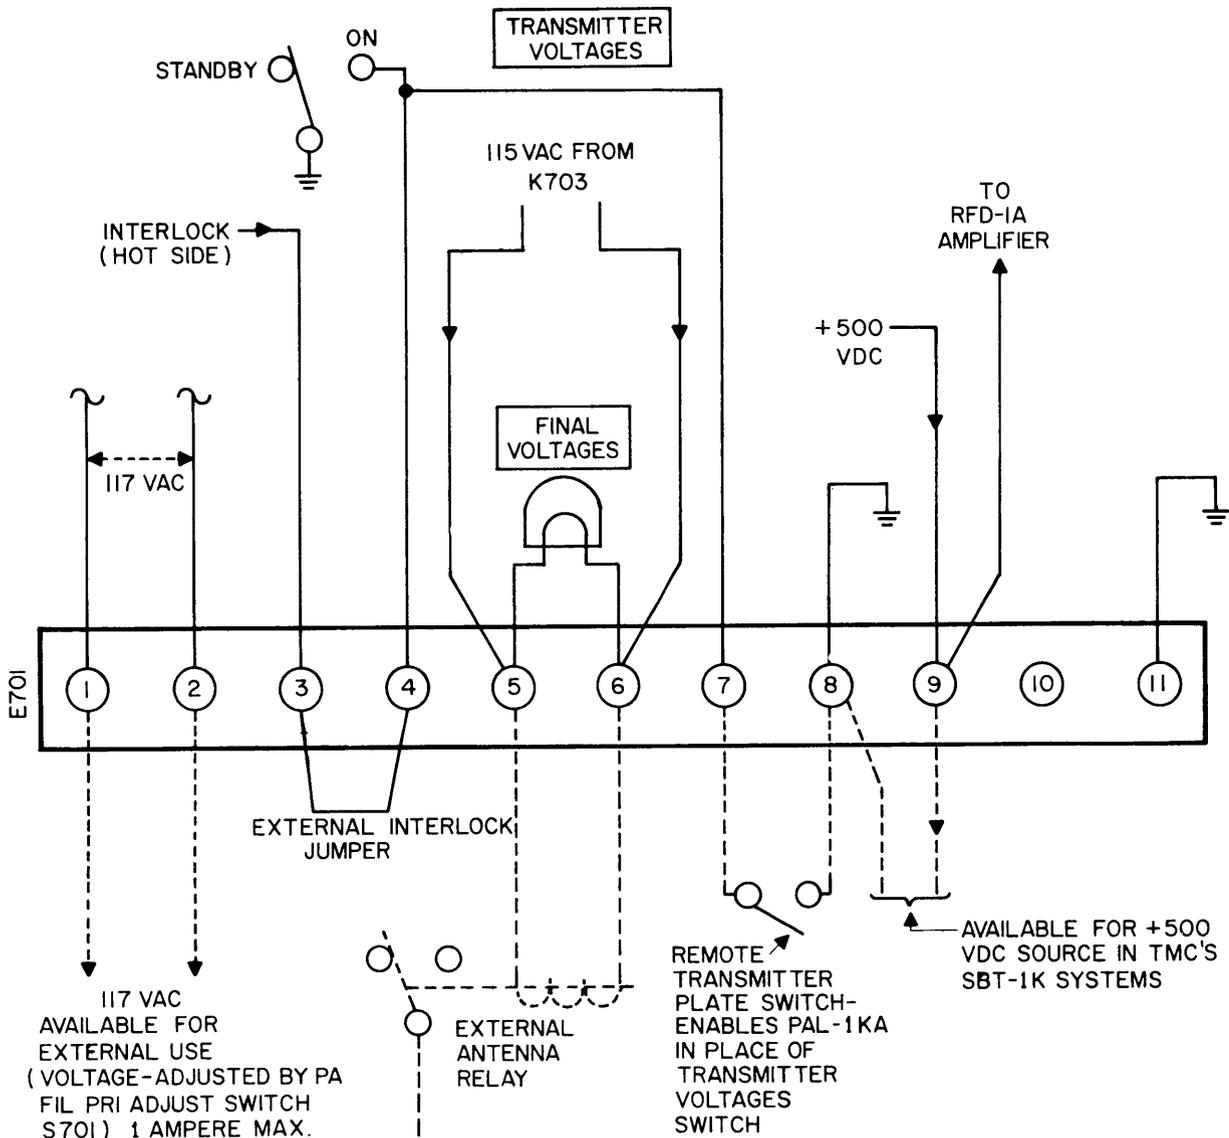

Figure 2-5. Auxiliary External Connections, PAL-1K(A)
(1) **GENERAL.** Figure 2-5 is a diagram showing connections possible for wiring the PAL-1K(A) system into another system. All such external connections